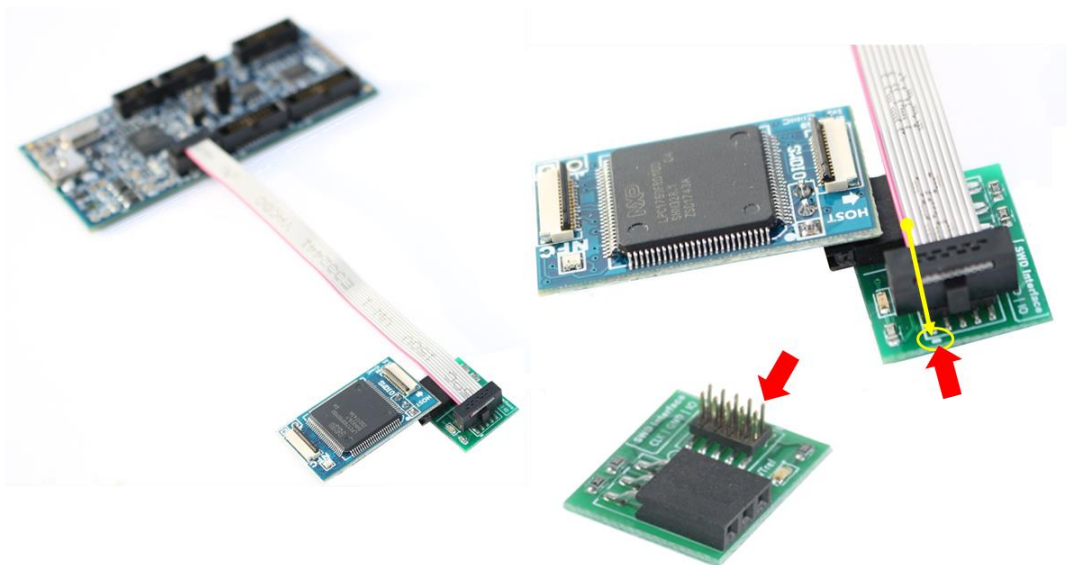

Fig 9 Image LPC1769 MCU LPC Link2 connection
1. USB Converter attached to LPC1769 MCU module hardware configuration (Figure 9).